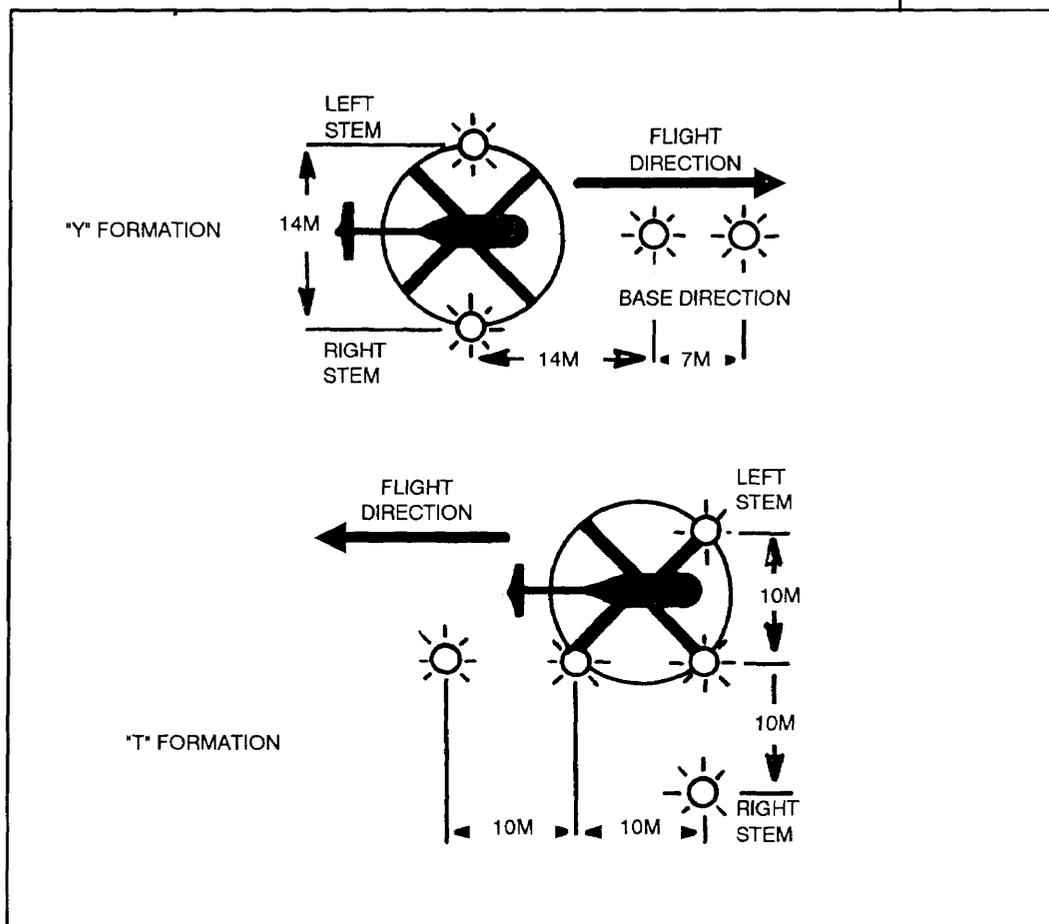

Figure I-2. The "Y" and "T" formation for single landing site.
a. During night operations, the landing point for the lead aircraft is normally marked by amber beacon lights. The landing point for the lead aircraft, if aircraft are in formation, is marked with either an inverted "Y" or a "T" (Figure I-2). The aircraft touches down or hovers on the midpoint of the legs of the "Y" and to the left of the stem of the "T".